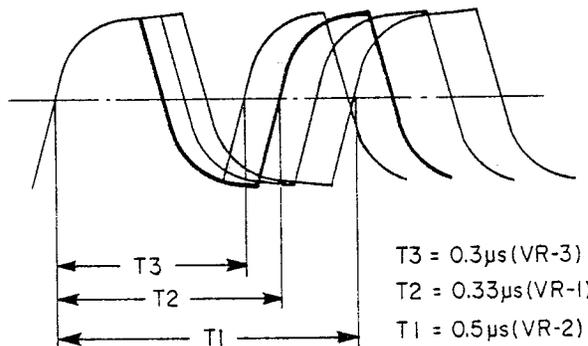

Fig. 4
- Adjust VR-2 so that  $T_1$  in Fig. 4 is  $0.5 \mu\text{s}$  (2 MHz).
- Adjust VR-1 so that  $T_2$  in Fig. 4 is  $0.33 \mu\text{s}$  (3 MHz).
- (e) Adjust VR-3 so that  $T_3$  in Fig. 4 is  $0.3 \mu\text{s}$  (3.3 MHz).